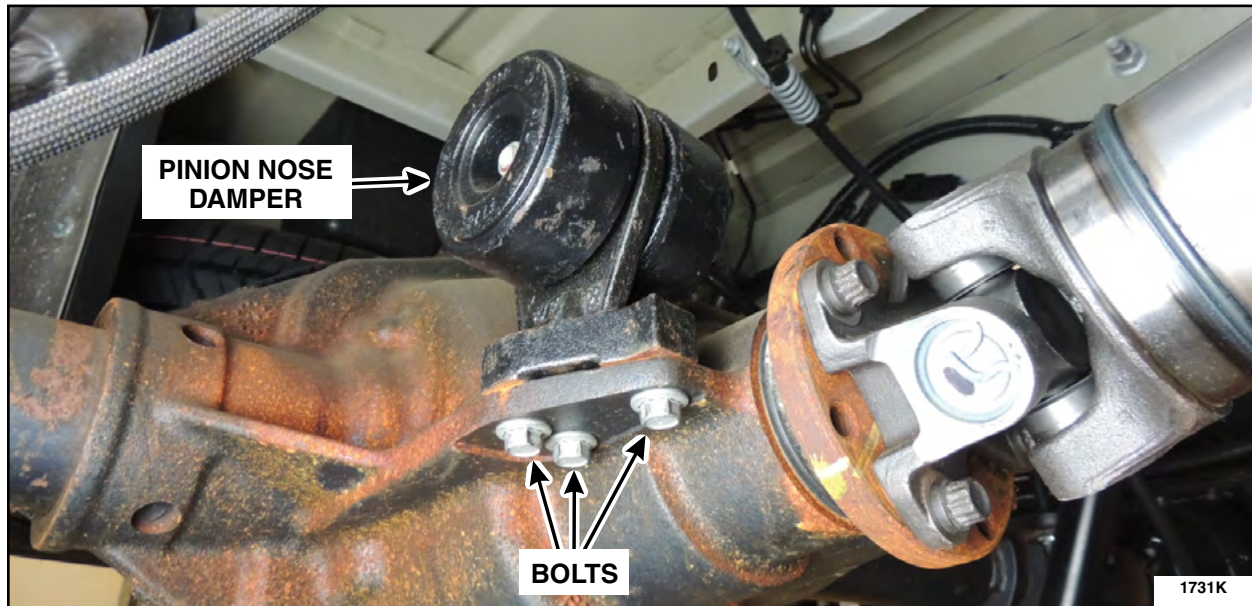

FIGURE 19
1. If a pinion nose damper is present, remove and discard the three bolts and the original pinion nose damper located on the RH side of the rear axle center housing. See Figure 19.
2. Install a *new* pinion nose damper and tighten the three bolts. See Figure 19.